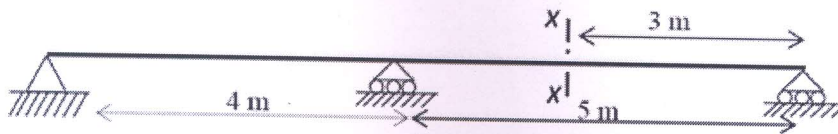

Fig. 9
10. Draw the influence line diagram for the bending moment at the section X-X of a beam supported as shown in Fig. 9. [10]